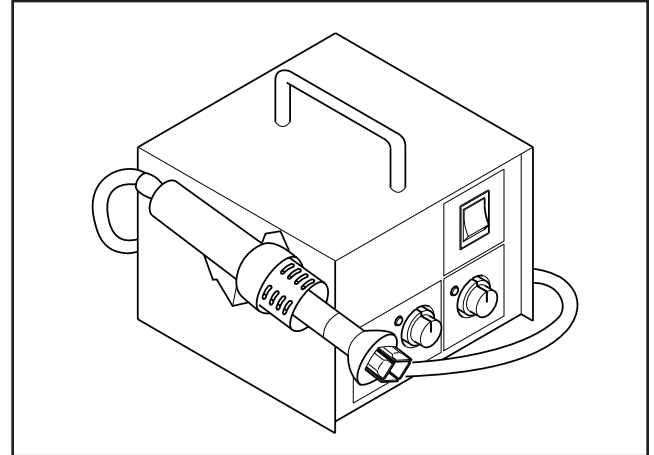

Fig.1
- Prepare the hot-air flat pack-IC desoldering machine, then apply hot air to the Flat Pack-IC (about 5 to 6 seconds). (Fig. 1)